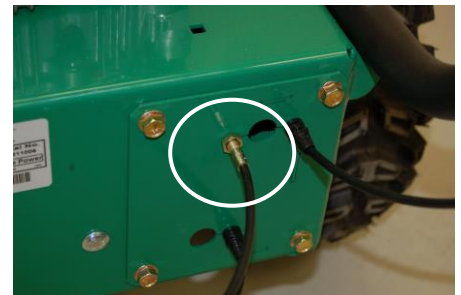

Fig. 8
3. Adjust cable tension by tightening or loosening cable adjustment nut on rear of engine base (See *Fig. 8*). Be sure to leave enough slack in cable to allow blade brake to engage.